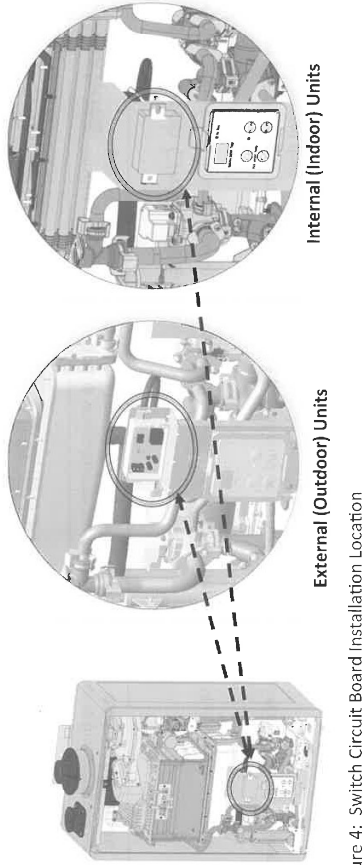

Figure 4: Switch Circuit Board Installation Location
- Install the **switch circuit board** to the controller bracket using the hooks at the top of the controller bracket (Figure 4).